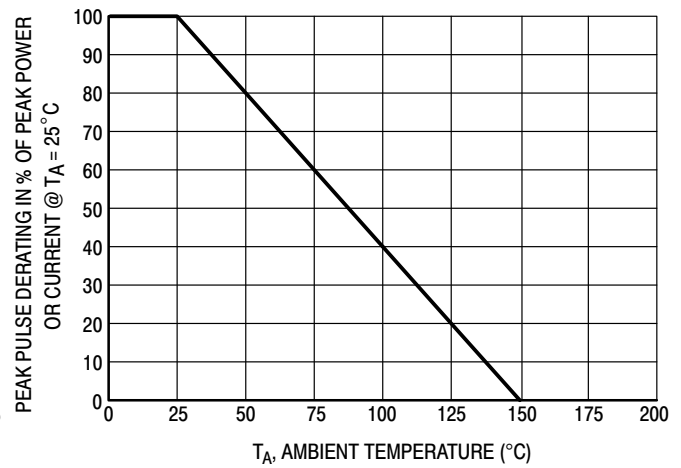
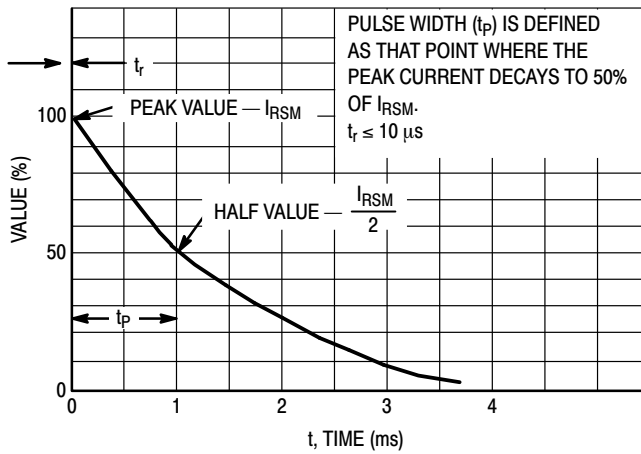
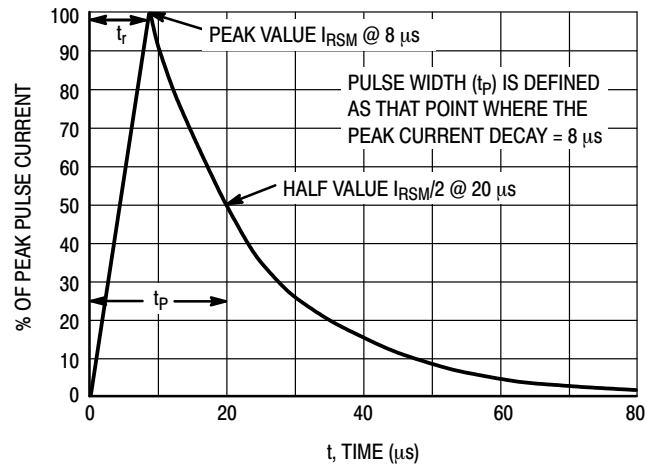

Figure 4. Pulse Derating Curve
Figure 5. 10 × 1000 μs Pulse Waveform
Figure 6. 8 × 20 μs Pulse Waveform
- Peak Power-Min. 24 W @ 1.0 ms (Unidirectional), per Figure 5 Waveform
- Peak Power-Min. 150 W @ 20 μ s (Unidirectional), per Figure 6 Waveform
1. Non-repetitive current pulse per Figure 5 and derate above T_A = 25 °C per Figure 4.
2. Non-repetitive current pulse per Figure 6 and derate above T_A = 25 °C per Figure 4.
8. Surge current waveform per Figure 5 and derate per Figure 4.